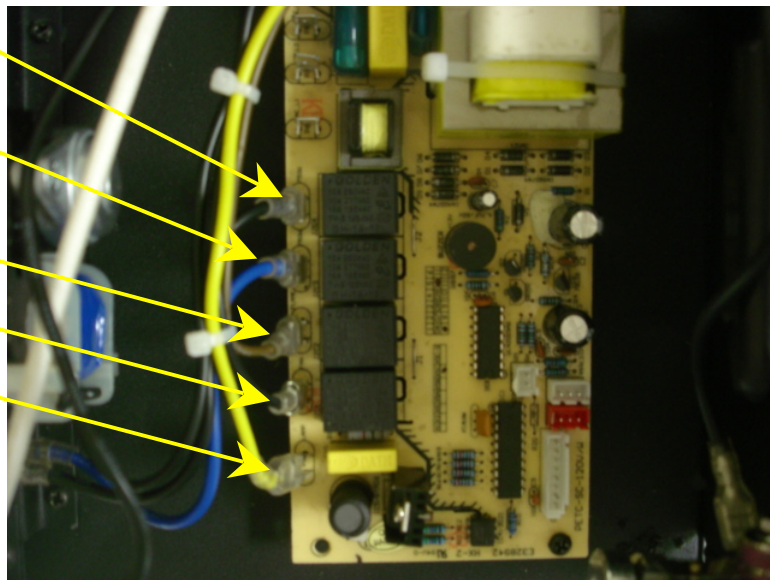

Figure 5, output terminal wiring
- 6) Connect the PCB positive output leads; Top heater, Bottom heater, Flame motor, Fan motor and Lamps. All (5) outputs are #16awg leads with a spade female terminal to mate with a male spade terminal. **Refer to Figure 5. Refer to electrical drawings on pages 6 and 7 of this manual.**